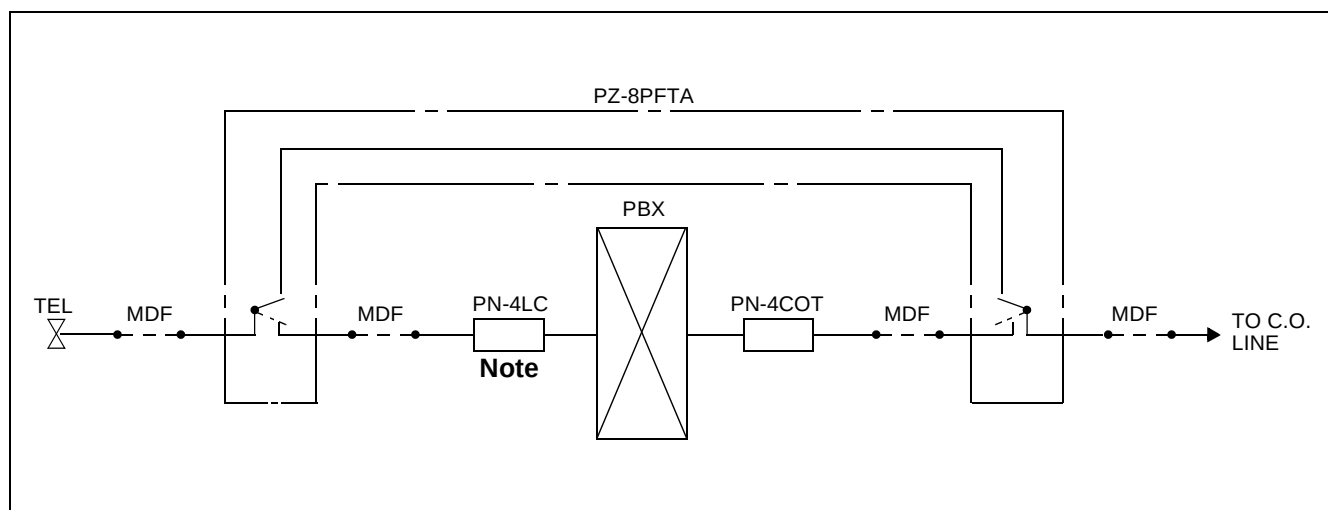

Figure 007-32 PFT (PZ-8PFTA) Connection Outline
- Figure 007-32 shows an outline of a PFT (PZ-8PFTA) connection.